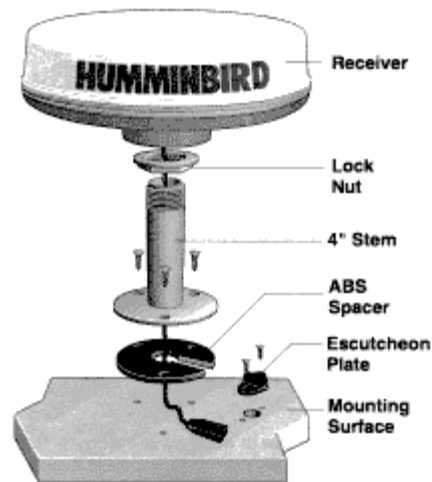

Figure 5
2. If access to the lower side of the mounting surface is possible, you may choose to route the receiver cable through the surface. If access is not possible or desirable, a 1/4" ABS spacer is provided to allow routing of the cable to the side of the stem mount. (Figure 5)